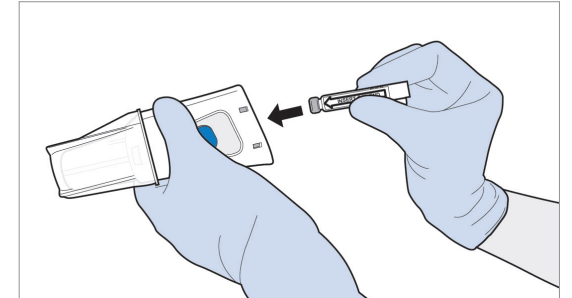

Figure 36 Insert Drug Cartridge into Sterile Array
15. Insert the Drug Cartridge into the center of the Array and firmly push until you hear an audible »click« to indicate that the Drug Cartridge is fully inserted (see Figure 36 and 37).